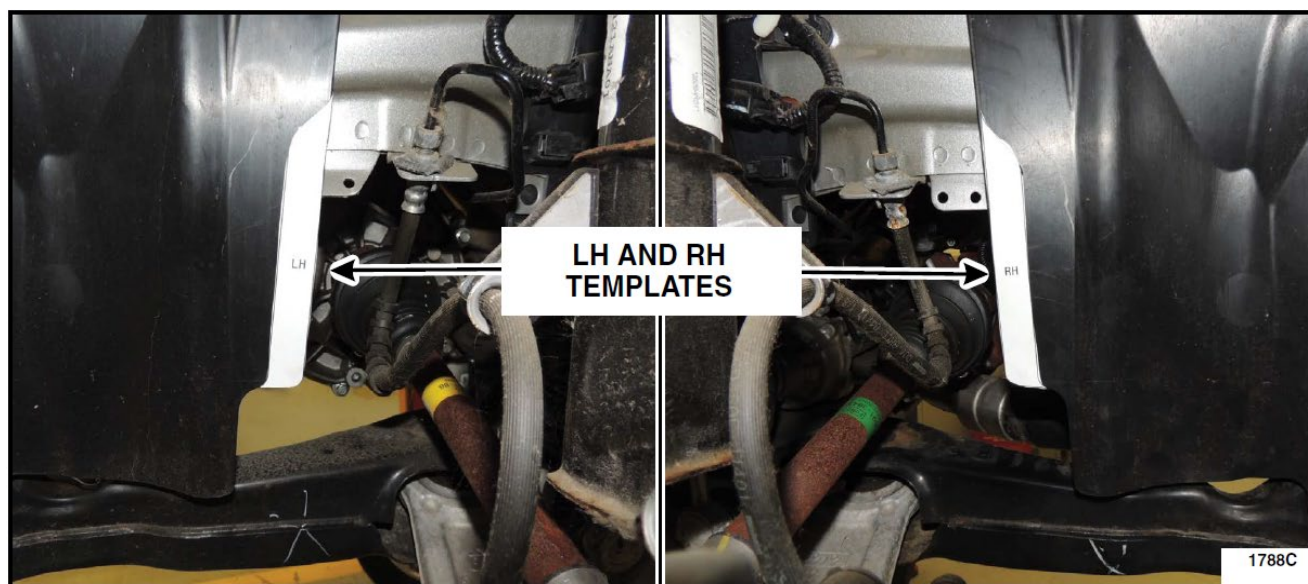

FIGURE 3
7. Attach the cut-out templates (See Attachment IV) to the RH and LH front fender splash shields. Using a suitable cutting tool, cut the front fender splash shields at the locations shown. See Figure 3.